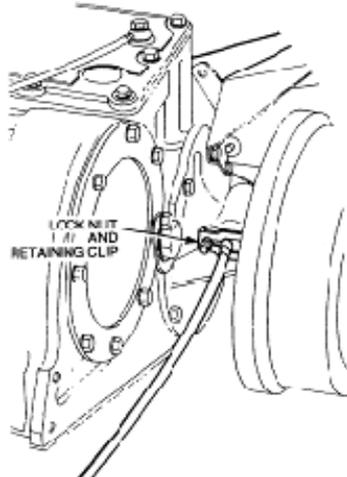

Figure 76 Speedometer Cable Locknut and Retaining Clip
116. **Removal.** Remove the speedometer cable and spindle as follows (Figure 76 and 77):
- g.** Fit a new O ring to the spindle housing and insert a new inner oil seal (Figure 76 and 77).